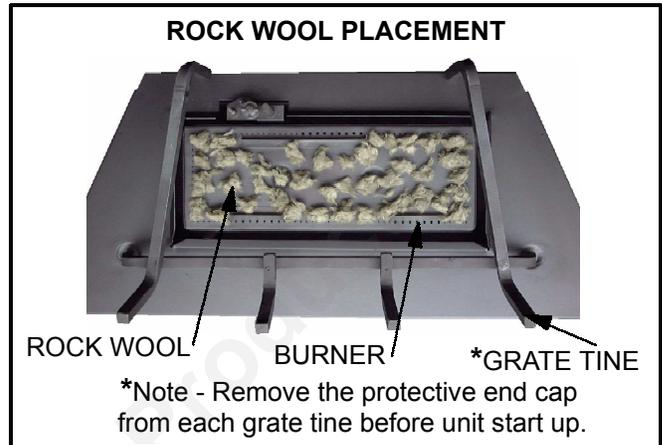

FIGURE 7
- 5 - Remove the protective end cap from each of the grate tines, and reinstall the grate in the upright position as shown in figure 7.
- 6 - Separate the rock wool into pieces about the size of a nickle. Keep the pieces fluffed up, not matted. Distribute these pieces over the entire pan burner area, leaving a space of approximately 1/8 inch between each piece as shown in figure 7; **however, do not place any pieces on the ports of the burner.**